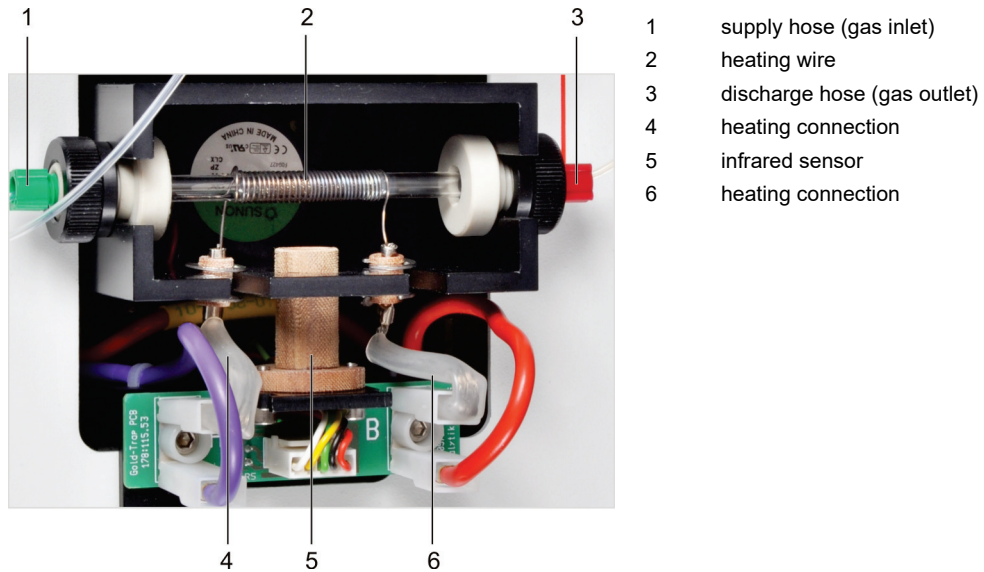

Figure 25 Connections at the gold collector
2. Pull the plug-in contacts of the heating coil (4 and 6, Figure 25) off the circuit board.
5. Insert the gold collector into the compartment whilst simultaneously inserting the isolation sleeves on the heating wire (2, Figure 25) into the groove.